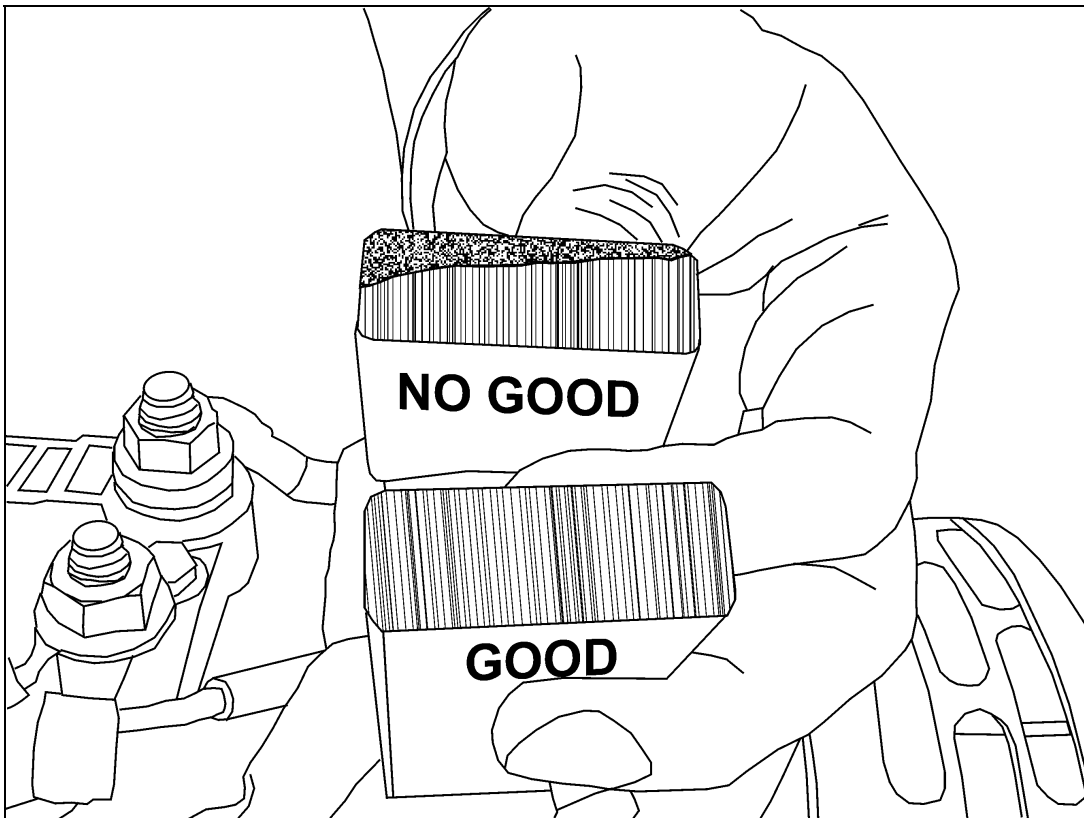

FIGURE 5
- c. Repeat method a or b until brushes are fully seated. **Seating surface of the brush must be no less than 80% of the face (Refer to figure 5).**